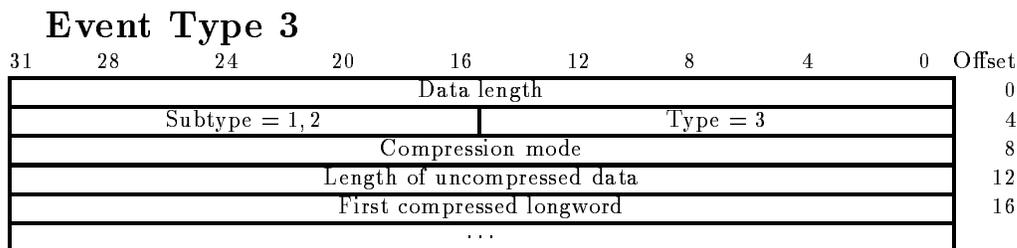

Figure D.6: Event structure type 3 (compressed)
Figure D.6 shows the event structure of type 3. Behind the header there follows one Data Element which is compressed. Two compress modes are supported. One adds a BIT(32) longword for each 32 Longwords. Zero longwords are suppressed and marked in the bitstring. The other adds counter longwords containing the number of following zero or nonzero longwords. **These buffer elements are longword aligned!**